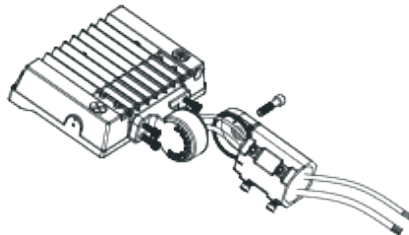

figure 2.2
Step 3: Run the rubber wire through the other holder and tighten it with the hexagon socket screw. (Watch out not to scratch the wire). (figure 2.2)